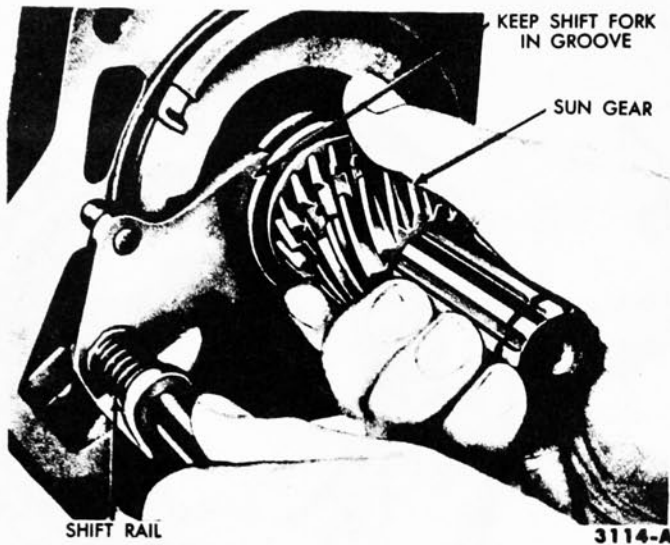

FIG. 14—Sun Gear and Shift Rail Installation
17. Install the overdrive shift rail and fork assembly and sun gear at the same time (Fig. 14). Install the snap ring in the transmission output shaft groove at the rear of the sun gear.
Seal installation—Fig. 14, Part 3-2.